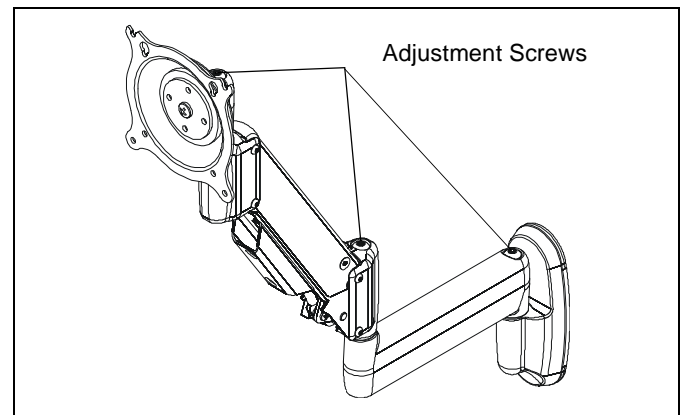

Figure 56
- Using 3/16" hex key (Z), slightly loosen or tighten the adjustment screw(s) as necessary. (See Figure 56)